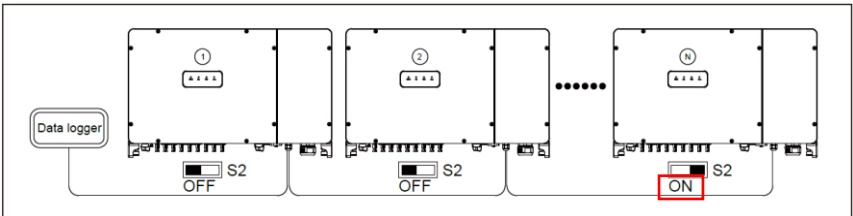

Fig. 3-20 RS485 Communication Network in Daisy chain
4. Remove an appropriate length of the jacket and insulation layer from the communication cable. Insert the exposed areas into 6-pin terminal holes respectively, ensuring correct polarity and using a shielded twisted pair cable, and then fasten them with screwdriver. At last, insert the crimped 6-pin terminal onto the corresponding RS485 connectors on the communication board as shown in Fig. 3-20.